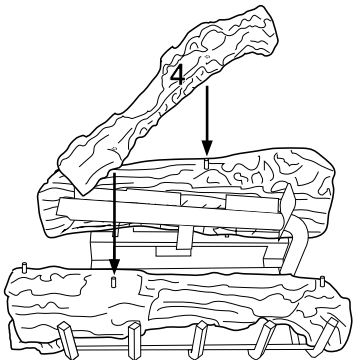

Figure 48 - Installing Log No. 4
4. Place log #4 (crossover log) onto pins from both logs #2 and #3 as shown in Figure 48.